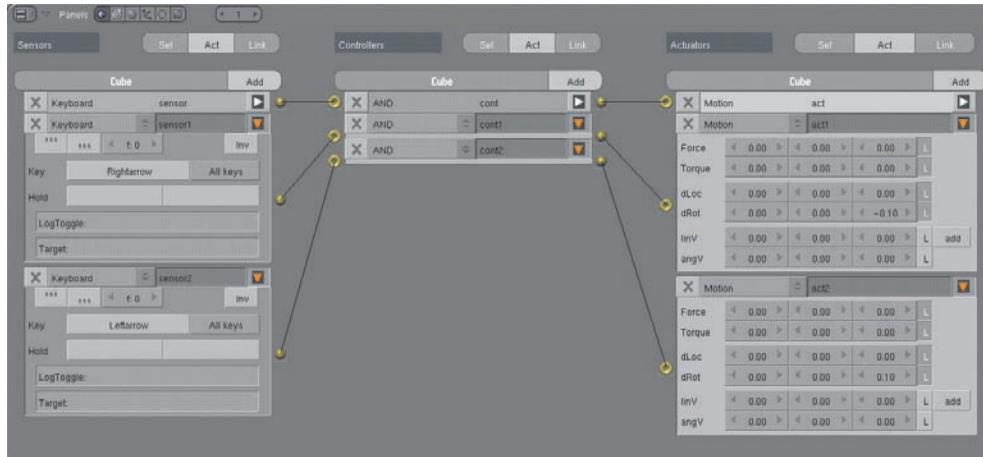

Figure 6.15 More controls
11. You can minimize and maximize the view of logic blocks by clicking the triangle in the upper-right corner of the logic block. In Figure 6.15, the blocks you just created are minimized, and two new sensors, two new controllers, and two new actuators have been added. The sensors are for the right-arrow and left-arrow keys, and the actuators represent right and left rotation around the local Z axis,
with -0.10 and 0.10 values, respectively, in the third column of the dRot rows. Set these logic blocks up as they are shown in Figure 6.15.